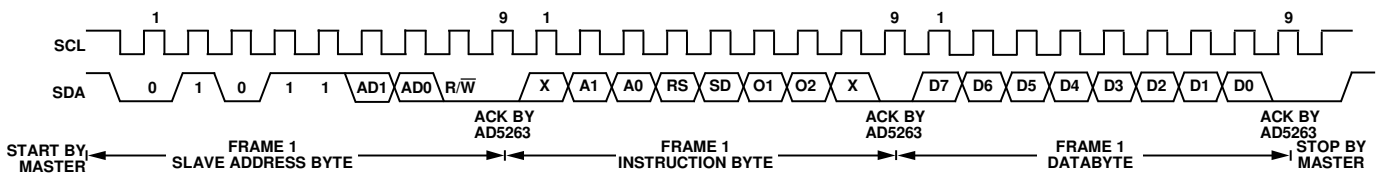
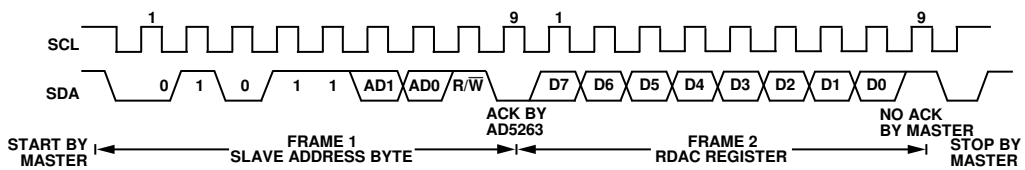

Figure 43. Writing to the RDAC Register
Figure 44. Reading Data from a Previously Selected RDAC Register in Write Mode
- The master initiates a data transfer by establishing a START condition, which is when a high-to-low transition on the SDA line occurs while SCL is high (see Figure 43). The following byte is the slave address byte, which consists of the 7-bit slave address followed by an R/W bit. This R/W bit determines whether data will be read from or written to the slave device.
After acknowledging the instruction byte, the last byte in write mode is the data byte. Data is transmitted over the serial bus in sequences of nine clock pulses (eight data bits followed by an acknowledge bit). The transitions on the SDA line must occur during the low period of SCL and remain stable during the high period of SCL (see Figure 43).
- In read mode, the data byte follows immediately after the acknowledgment of the slave address byte. Data is transmitted over the serial bus in sequences of nine clock pulses (a slight difference with the write mode, where there are eight data bits followed by an acknowledge bit). Similarly, the transitions on the SDA line must occur during the low period of SCL and remain stable during the high period of SCL (see Figure 44).
Note that the channel of interest is the one that was previously selected in write mode. In cases where users need to read the RDAC values of both channels, they must program the first channel in write mode and then change to read mode to read the first channel value. After that, they must change back to write mode with the second channel selected and read the second channel value in read mode again. It is not necessary for users to issue the Frame 3 data byte in the write mode for subsequent readback operation. Refer to Figure 44 for the programming format.
- After all data bits have been read or written, a stop condition is established by the master. A stop condition is defined as a low-to-high transition on the SDA line while SCL is high. In write mode, the master pulls the SDA line high during the tenth clock pulse to establish a stop condition (see Figure 43). In read mode, the master issues a no acknowledge for the ninth clock pulse (that is, the SDA line remains high). The master then brings the SDA line low before the tenth clock pulse, which goes high to establish a stop condition (see Figure 44).
The AD5263 features additional programmable logic outputs, O1 and O2, which can be used to drive a digital load, analog switches, and logic gates. O1 and O2 default to Logic 0. The voltage level can swing from GND to  $V_L$ . The logic states of O1 and O2 can be programmed in Frame 2 under write mode (see Figure 43). These logic outputs have adequate current driving capability to sink/source milliamperes of load.